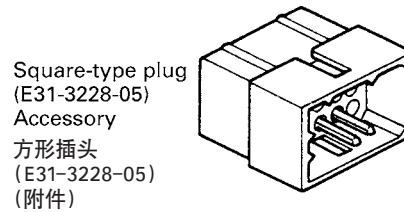

Fig. 4-1 / 图4-1
1. Remove the connector with jumper from the external speaker connector on the rear panel of the radio. (Fig. 4-1)
1. 从本机后侧面板的外部扬声器连接器上拆下连接器和跳接器 (图4-1)。